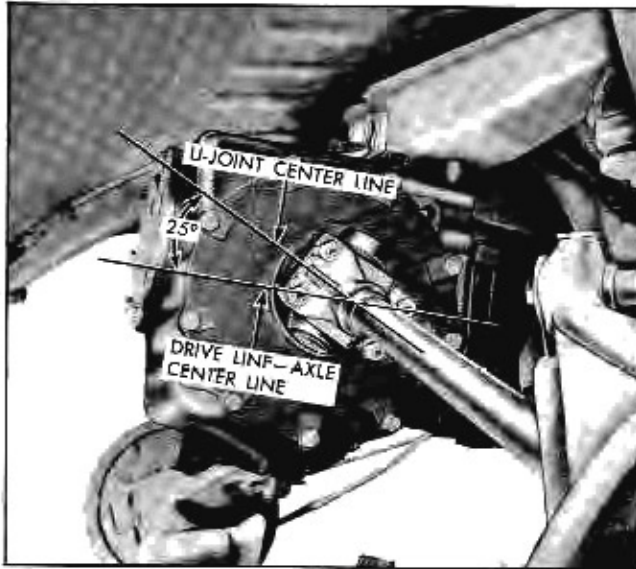

Fig. 3-30 Position of U-Joint for Spring Removal
4. Position the axle shaft U-joint as shown in Fig. 3-30. This must be done to allow the axle shaft and control arm to swing down far enough to remove spring. This will keep the yoke on universal joint from hitting the axle case or the side bearing adjusting nut.